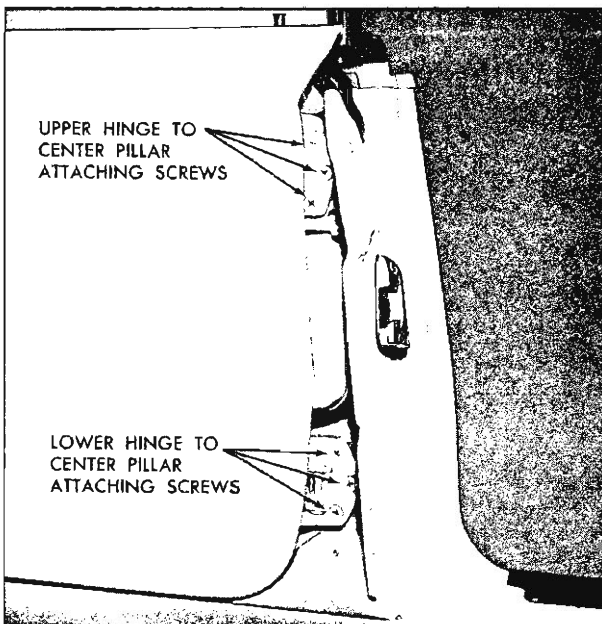

Fig. 44—Rear Door to Center Hinge Pillar Attachment
4. With door properly supported, remove three upper and lower hinge attaching screws at door hinge pillar or center pillar depending on method of removal (fig. 44).
2. To adjust door fore or aft, loosen hinge to center pillar attaching screws, adjust door fore or aft as required and tighten screws (fig. 44).